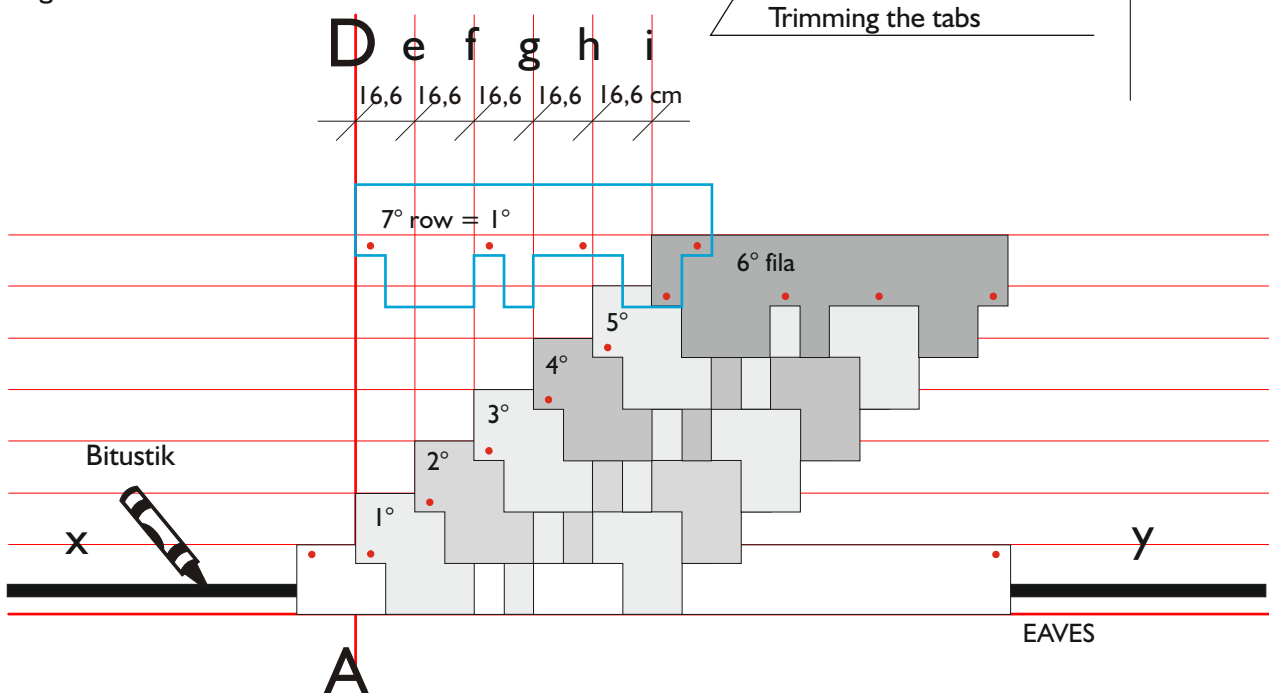

Fig. 4 - Sequence of 7 shingles
- Install the second row of Gothik shingles along the line “e” (Fig. 4).
- Install the third row of Gothik shingles along the line “f” (Fig. 4).
- Repeat this installation method untile the shingles are aligned to the line “i” (sixth row), then start again from the vertical line AD (Fig. 4).